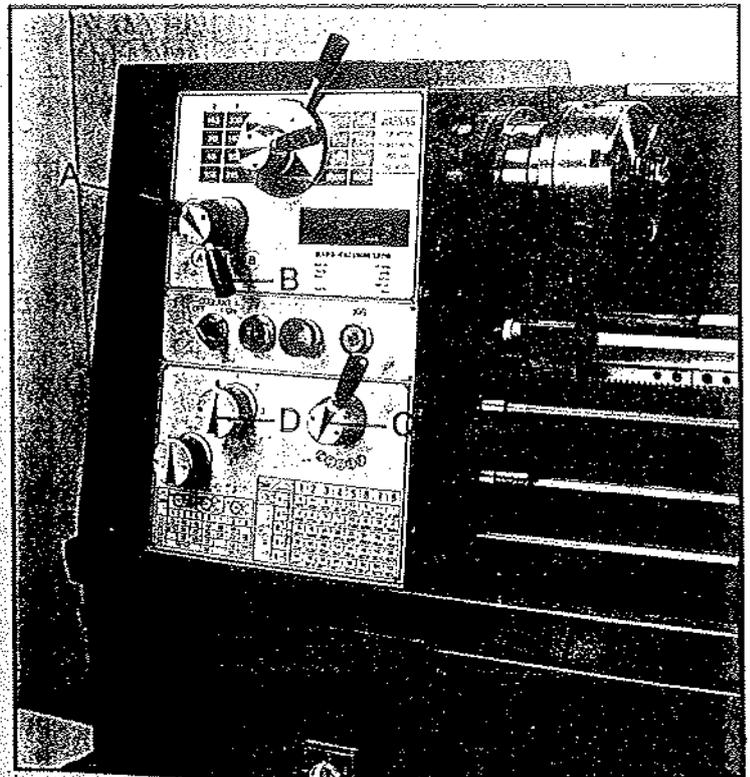

Fig. 19
2. Set selector levers (A, B, C, & D, Fig. 19) to desired rate. Note: for feeding, lever (C) will be set at "F" or "D", depending on desired feed rate.
1. Set forward/reverse lever (A, Fig. 19) up or down depending on the desired direction.
2. Set selector levers (A, B, C, and D, Fig. 19) to desired rate. Note: for threading, lever (C) will be set at "C" or "E", depending on desired thread.